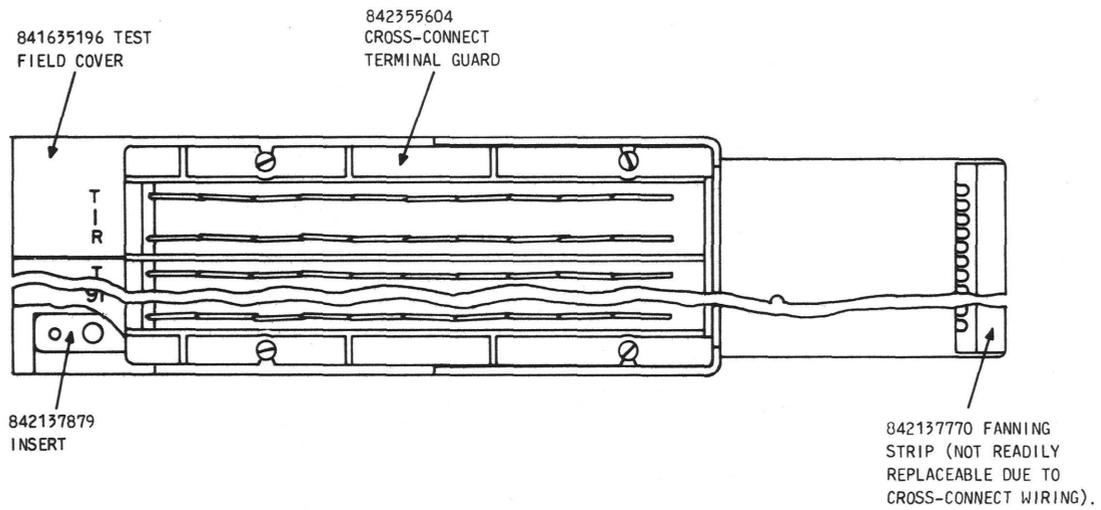

Fig. 4—305-Type Connector, Right Side
- (1) Remove and retain the two flathead screws on the outer edge of the connector.
- (2) Withdraw the test field cover from the connector, being careful that the 842355604 terminal guard is not damaged.
- (3) Insert the new test field cover in place with the rear edge under the terminal guard.
- (4) Insert the two flathead screws removed in Step (1) carefully so the threads in the block are not stripped.
5.02 842355604 Terminal Guard (Fig. 4)